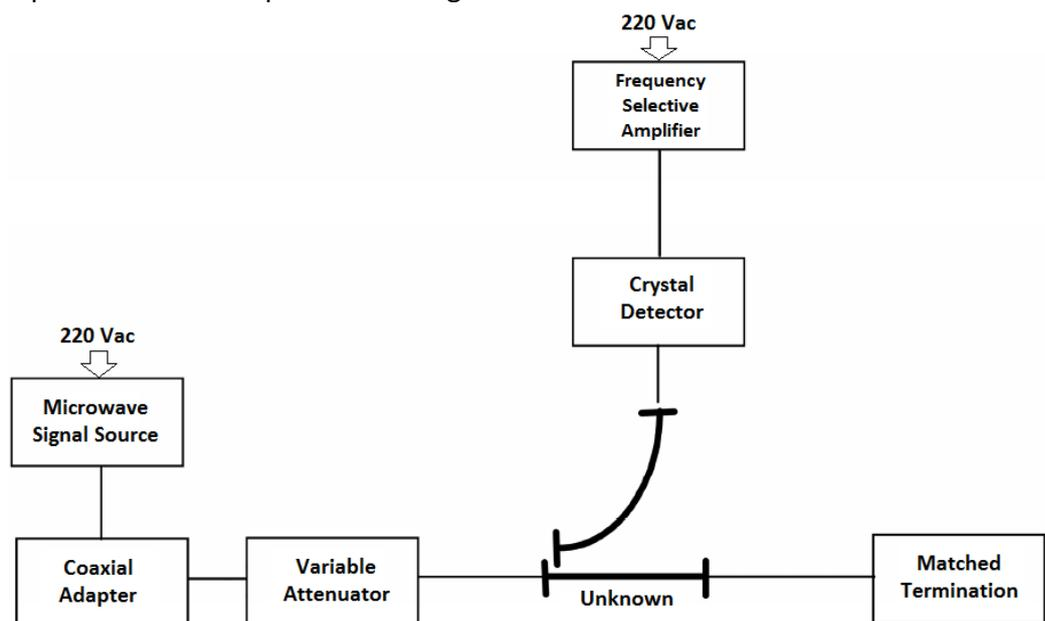
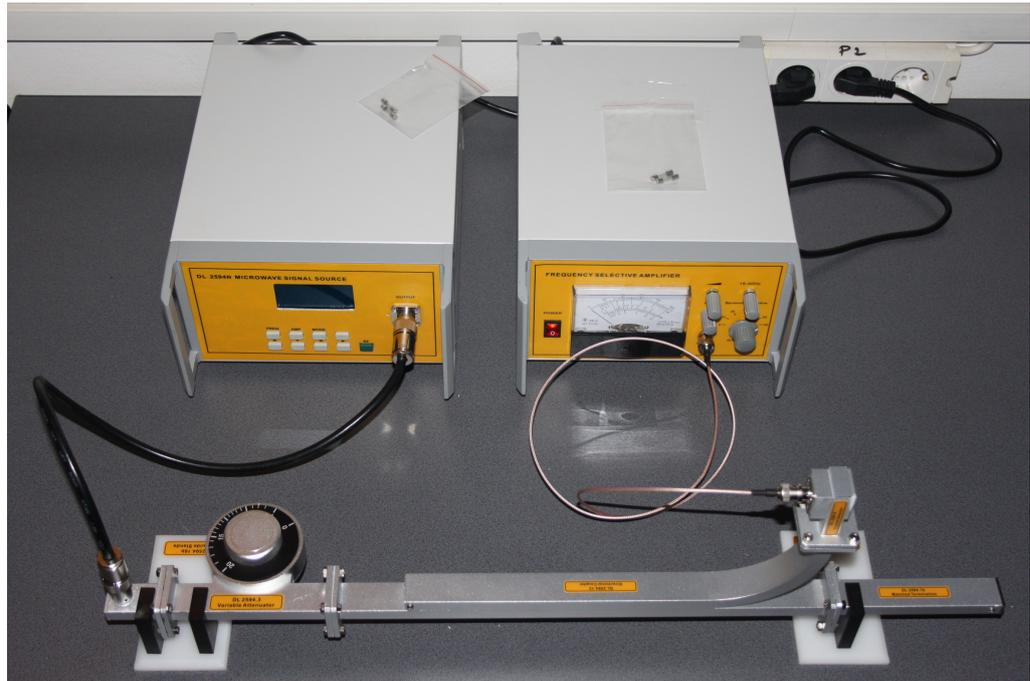

Figure 4.8.3. Measuring the attenuation using the power ratio method.
Figure 4.8.4. Real representation of the experiment.
- (1) Set the Variable Attenuator to 20.
- (2) Set the SWR indicator gain to either 30 dB or 40 dB range and adjust the indicator for 0 dB.
- (3) Using a directional coupler, add a matched termination to the setup as shown in Figure 4.8.3 and/or Figure 4.8.4.
- (4) Obtain the reading of the SWR indicator. Calculate the actual coupling of the Directional Coupler.
- (5) Repeat step (2), (3) and (4) with the Variable Attenuator set at 15 and 10 respectively.
- (6) Repeat the above experiment using a fixed attenuator.
- (1) Set the Variable Attenuator to 20. Adjust the SWR indicator's range switch and gain control so that the indicator can indicate 0 dB.
- (2) Insert the Directional Coupler and connect the Crystal Detector to the auxiliary arm of the Directional Coupler (see Figure 4.8.3 and/or Figure 4.8.4). Without altering the SWR indicator setting, adjust the Variable Attenuator until the SWR indication is the same as before. Record the attenuator setting. This is the actual value of the attenuation of the directional coupler in this case.
- (3) Repeat the above experiment using a fixed attenuator as a DUT.